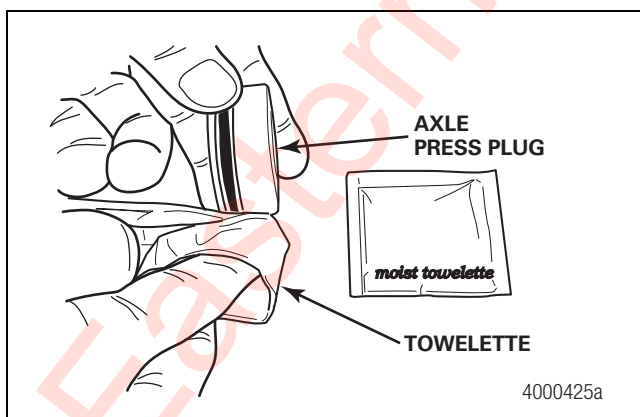

Figure 2.17
12. Clean the exposed O-ring surface and outside diameter surface of one axle press plug using a towelette provided in the installation kit. Use a new towelette for each wheel end. Protect the cleaned plug from additional contaminants. Figure 2.17.